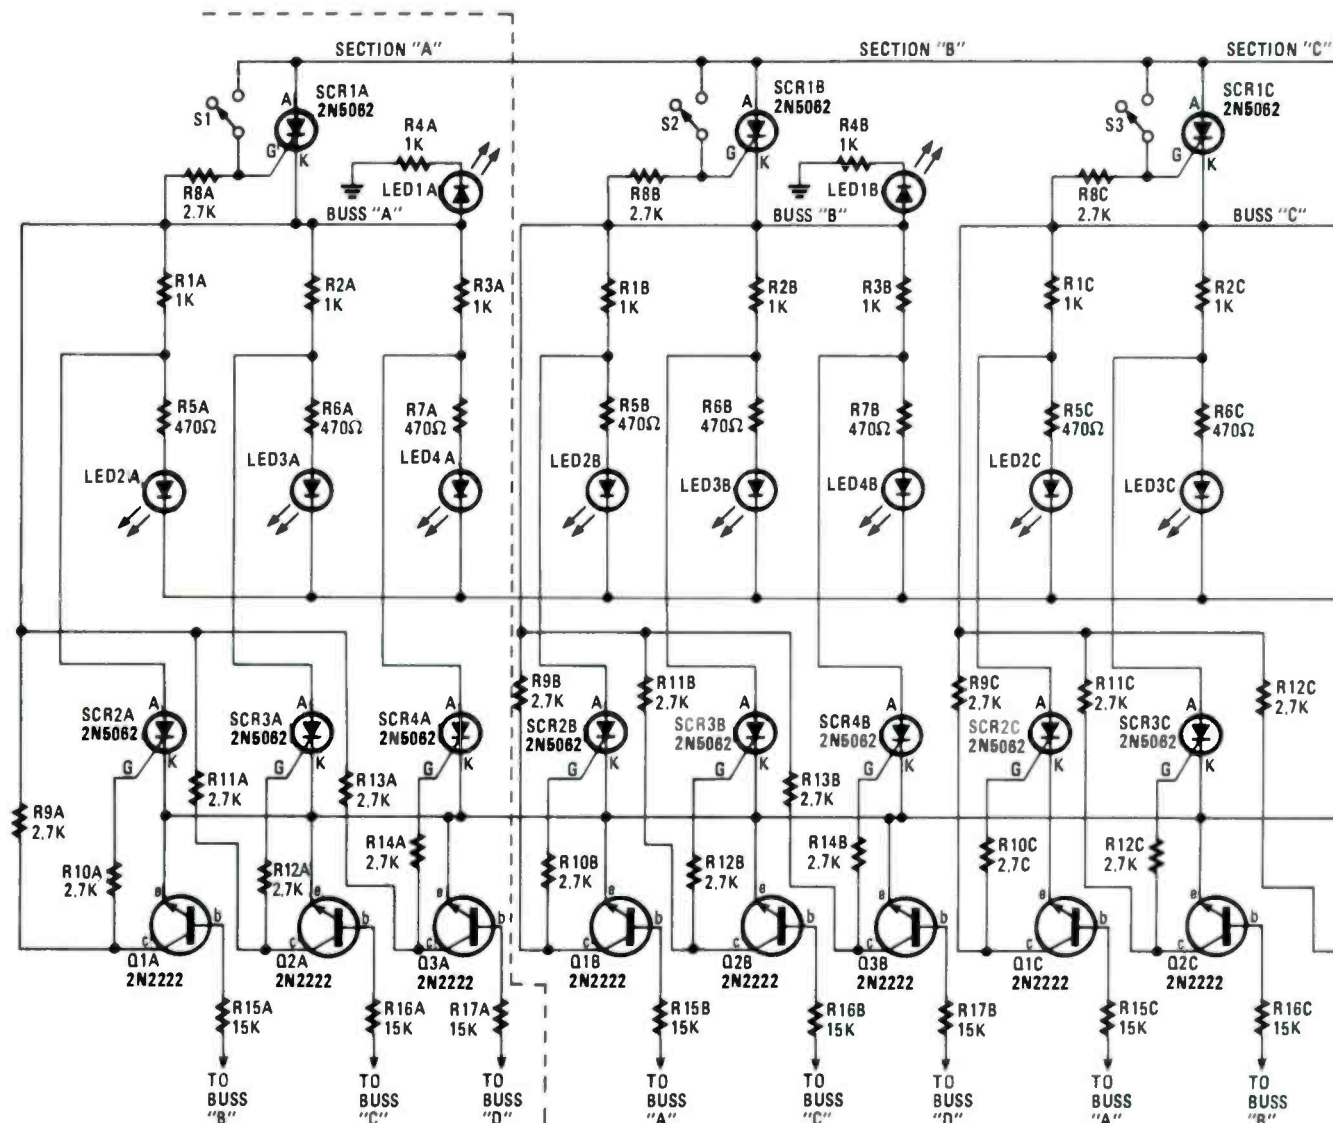

Fig. 3—Seven more SCR's are needed to make the circuit work with a fourth track—with one SCR added to each of the three existing
The circuit in Fig. 3 handles the job quite well. The circuit's operation, when broken down into four separate (but
Figure 2 reveals the internal circuitry of the SA-2550. The circuit has a large, high-voltage, 500-pF variable capacitor driven by a small (but high torque) low-voltage DC motor. The two large eyelet terminals (on either side of the tuners housing) are used to connect the antenna radiators to the box. The use of that capacitor in horizontal and vertical antennas is shown in Fig. 3.
exhibits a capacitive reactance. For that type of antenna we insert a loading coil to provide inductance to cancel the antenna capacitance. That's the usual case for amateur and CB mobile antennas, and some vertical antennas operated on 80-meters. In the case of the SA-2550 tuner, we make the antenna radiator (L1 and L2) in Fig. 3 longer than is normally necessary, and use
**Fig. 3—The use of the tuning capacitor along with the inductance of the wire radiator (L) act as an LC network, in horizontal (A) and vertical antennas (B). At resonance, the feedpoint impedance of an antenna is all resistive, but as the operating frequency departs from resonance, the reactive components exhibit a rise in reactance, becoming more inductive or capacitive, depending upon the nature of the frequency deviation.**